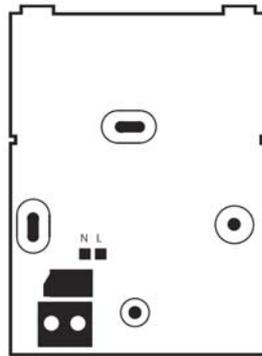

Fig.3
- Connect the two supply wires to the corresponding Neutral and Live terminals in the base **Fig.3**